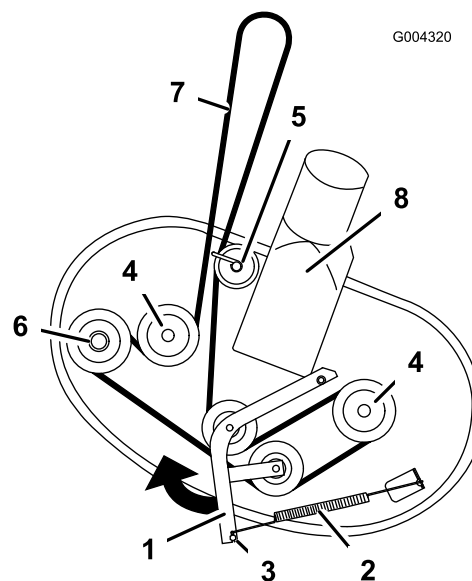

Figure 60
- Loosen fastener securing the belt guide to the rear pulley (Figure 60).
- Pull the idler arm in the direction shown in Figure 60 and roll the belt off of the pulleys.
- Route the new belt around the engine pulley and mower pulleys (Figure 60). Install the new belt under the belt guide and around the rear pulley.
- Pull the idler pulley in the direction shown in Figure 60 and route the belt onto the idler arm pulley and spindle pulleys (Figure 60).
- Tighten the belt guide fastener on the rear pulley (Figure 60).